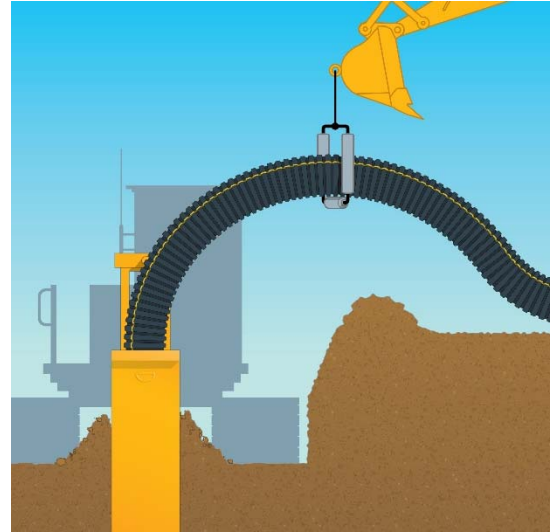

Figure 3: GOLDFLEX Support Guide
- To aid with installation, a guide should be used to help direct the pipe from the ground into the boot and avoid obstacles. A method that has shown to be successful is suspending a guide from the bucket of an excavator, or similar equipment, that can track along with the tile plow during installation (Figure 3). If a guide is not present, someone should walk with the tile plow to support the pipe and form an arch to help guide the pipe to the boot. The pipe should not be subjected to a radius tighter than the minimum **50" bend radius** of the boot. This creates a smooth transition from pipe strung outside of the trench to the fully installed GOLDFLEX pipe.